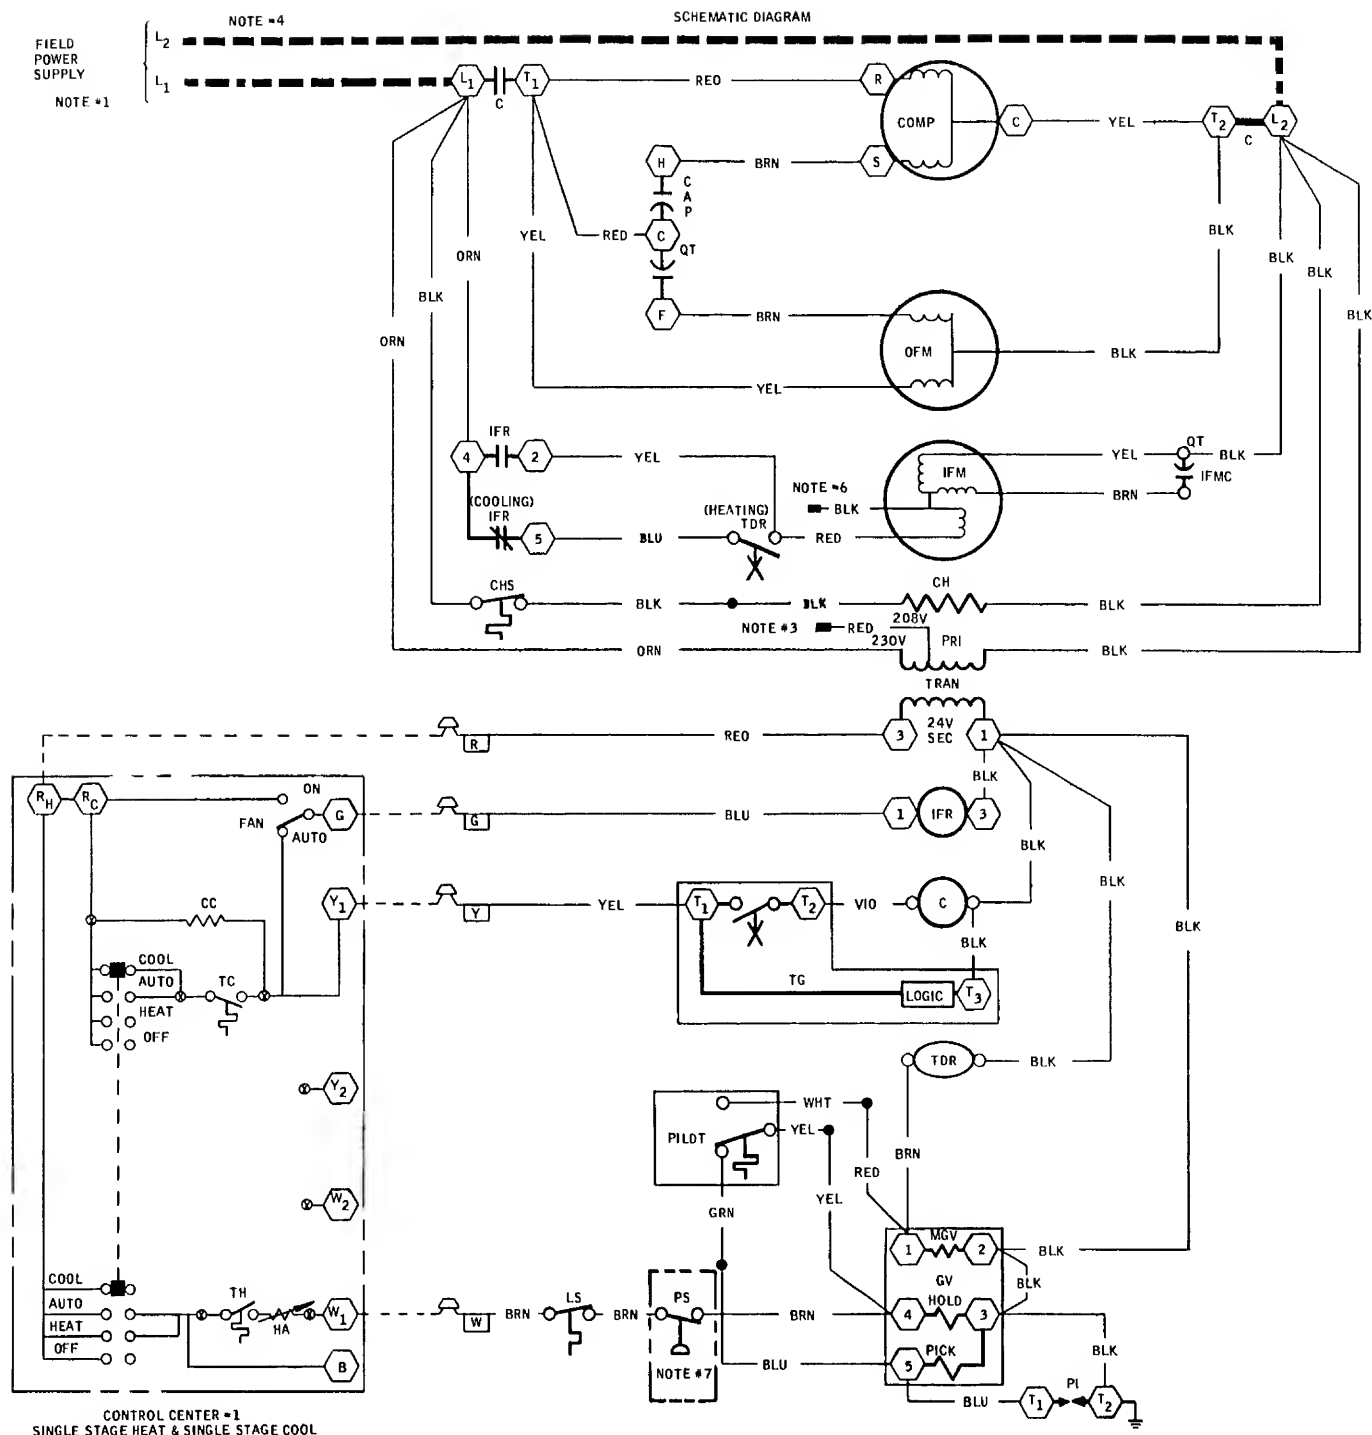

Fig. 9 — Typical Wiring Diagram
**Heating** — The following sequence of operation pertains to all 208/230-volt, 3-phase units; however, the sequence of operation of single-phase and 460-volt units is very similar. Refer to line-to-line wiring diagram in Fig. 9.
**NOTE:** Although actual unit wiring may vary slightly from that shown in Fig. 9, sequence of operation will not be affected.
**Cooling** — The following sequence of operation pertains to all 208/230-volt, 3-phase units; however, sequence of operation of single-phase and 460-volt units is very similar. Refer to line-to-line wiring diagram in Fig. 9.